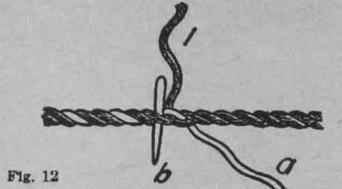

Fig. 12
The splice is completed as follows: With the ends properly tied, (fig. 11) with the right hand overhand knot, draw down firmly into the rope (fig. 12). The end (1) is now spliced down by being passed over the first strand (a) and under the second (b) as shown by the marline spike (fig. 12), then over the third (c) and under the fourth (a) (fig. 13). Draw down end (1) and cut it off, leaving it $\frac{1}{4}$ -inch long (fig. 14). In identically the same manner splice down and cut off each of the remaining strands. The splice is finished by pounding down the uneven parts and rolling it on the floor under the foot. The finished long splice appears as in (fig. 15).